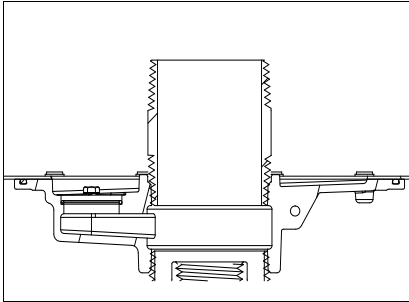

Figure 2
5. Apply pipe dope to a 4" or 6" NPT pipe nipple no more than 6" in length and thread in to the inside of the spill container base. The pipe dope is to be a non-hardening, gasoline resistant, pipe thread seal compound. (See Figure 2)